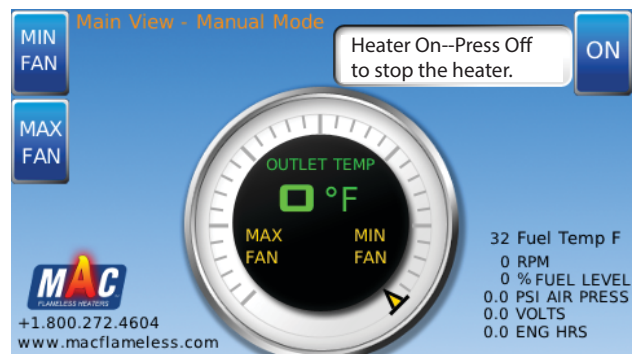

Figure 3-5. Heater On
6. When the heater is warm, heat begins blowing from ducts and screen displays "Heater on--Press Off to stop the heater" (**Figure 3-5**).